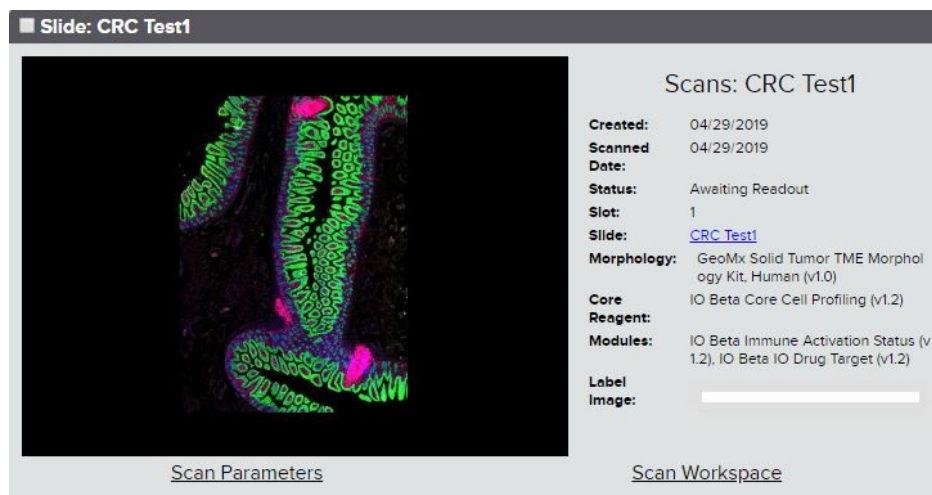

Figure 30: Scan card with Scan Workspace link
- To access the Scan Workspace from outside of the DSP run workflow, select the **Records** button from the DSP Control Center. Use the **Navigation** window to browse to your scan and select it. On your scan card, select the **Scan Workspace** link (see Figure 30).